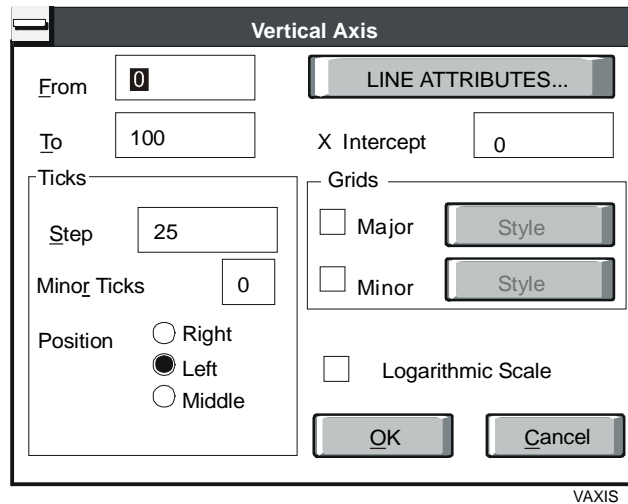

Figure 14-3: Vertical Axis Dialog Box
1. Double-click on the axis line (not the numeric labels). This displays the Vertical Axis dialog box (Figure 14-3).
Logarithmic Scale	When enabled, this feature logarithmically scales the vertical axis and all the plots. Note: An X appears in the box next to Logarithmic Scale when this feature is enabled (Figure 14-3).